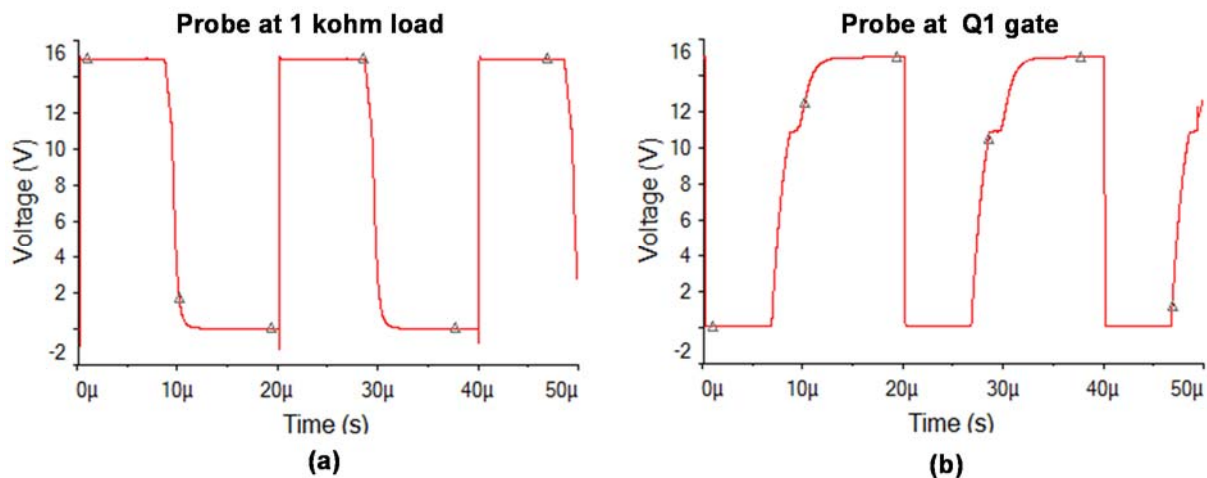

Fig. 4: Simulated waveforms for (a) load voltage (b) Q1 gate voltage. The little "kink" in the rising edge of the Q1 gate is the Miller plateau.
- ❖ Fig. 4 shows Multisim traces, so your measured waveforms will not be identical.